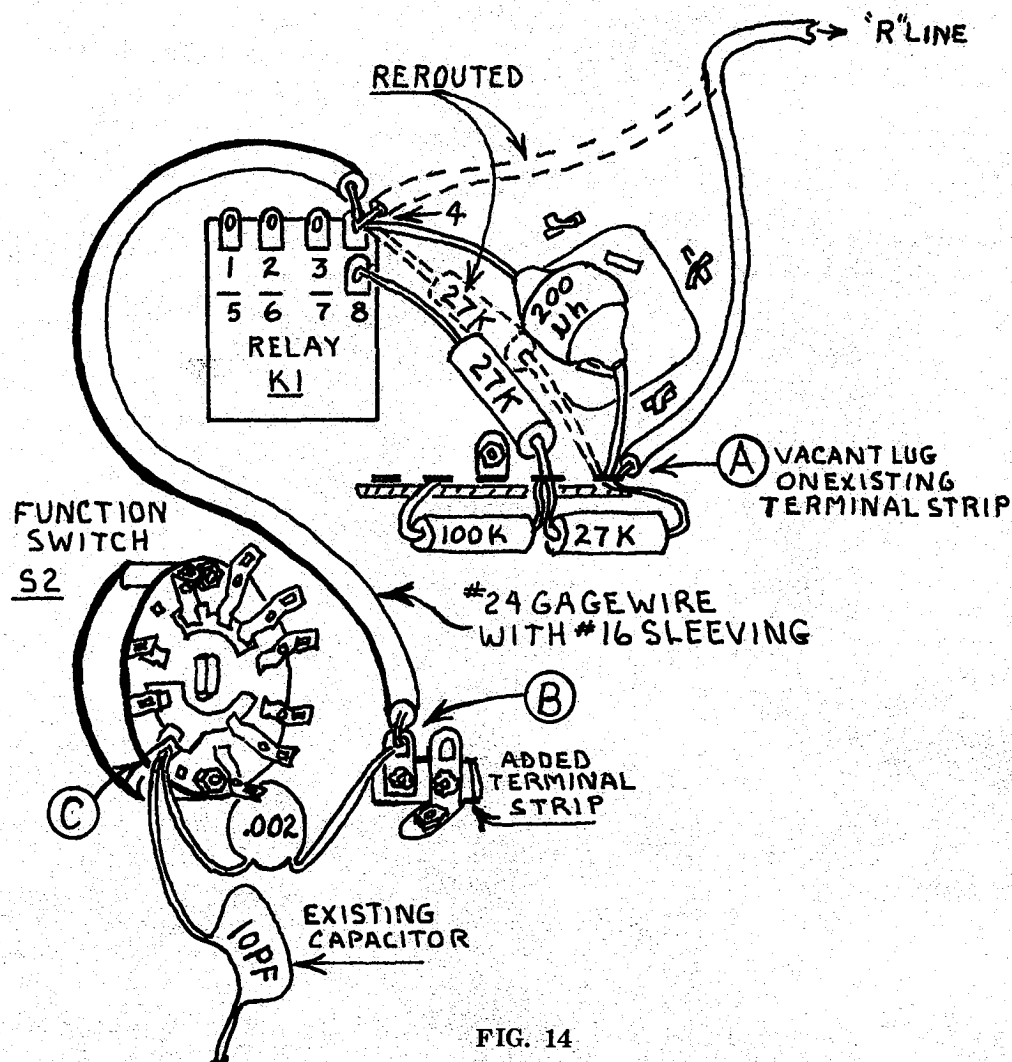

FIG. 14
1. From pin 4 of K1 relay Fig 14. Disconnect the 27K resistor and the one wire going to that pin. Reroute and connect to vacant lug "A" shown in illustration.